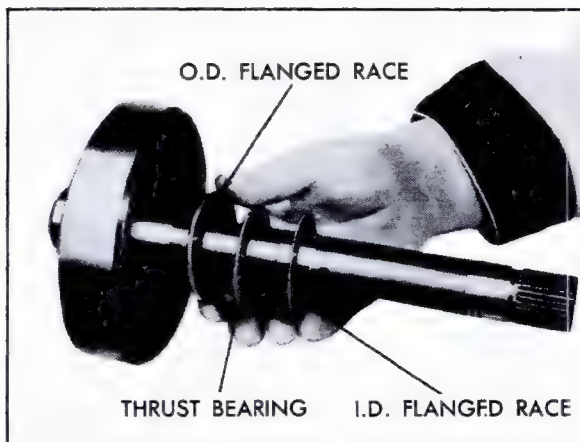

Fig. 7-99 Installing Races and Thrust Bearing on Inner Face of Rear Internal Gear
- a. Install large diameter race first, with flange facing up, Fig. 7-99.